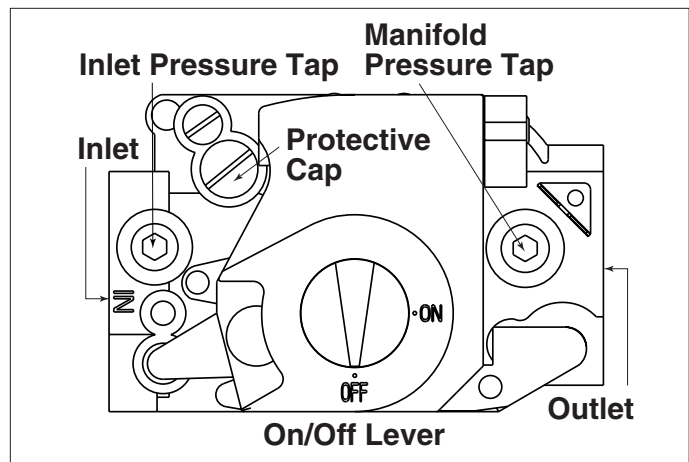

Figure 4. Gas Valve (Honeywell VR8205 (A,M) shown)
2. With a 3/16 inch Allen wrench, remove the manifold pressure tap plug located on the OUTLET side of the gas valve. Refer to Figure 4 for more details.
6. Allow the furnace to operate for three (3) minutes and then check the manifold pressure.